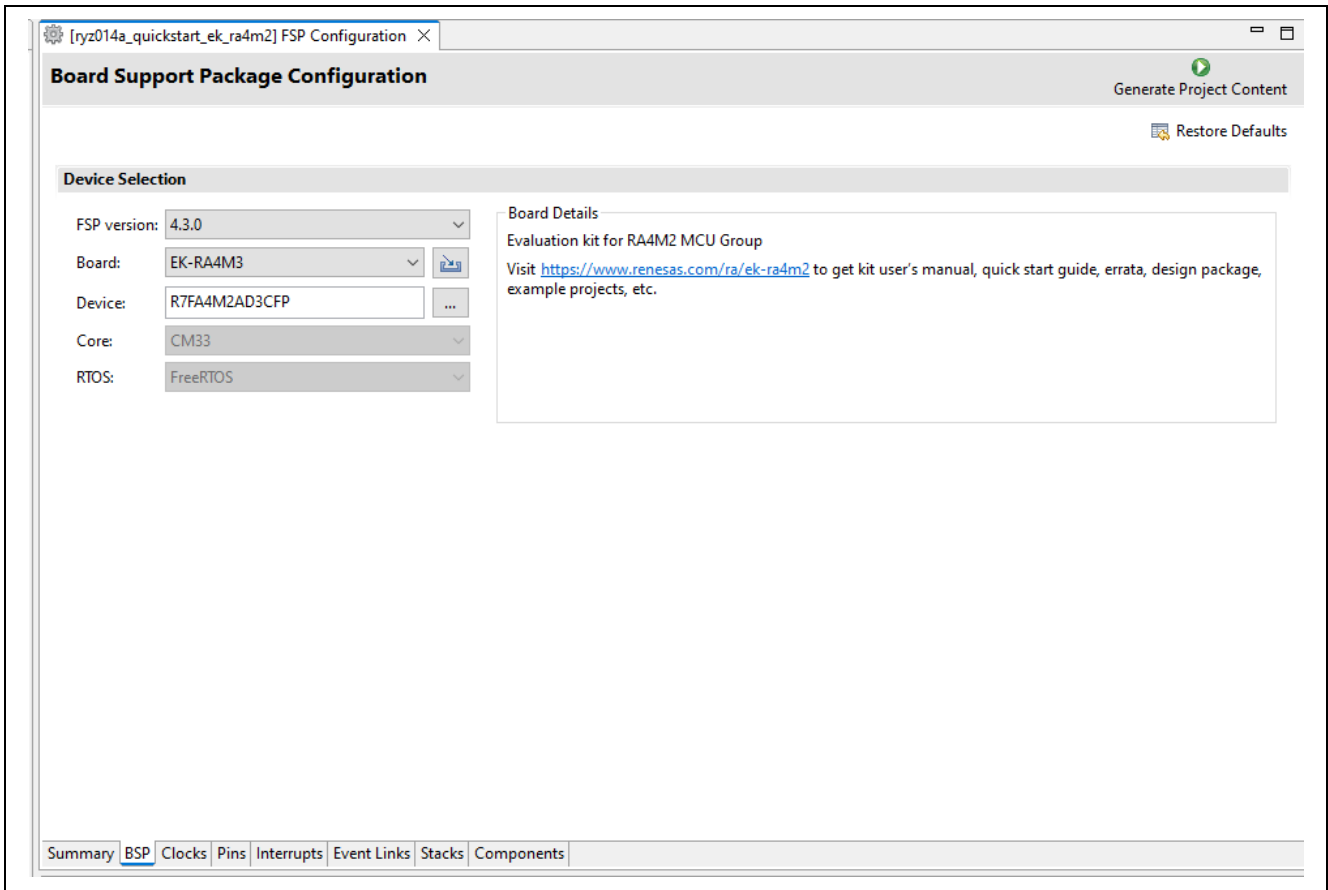

Figure 14. Modifying the Board Selection
2. For example, in the **BSP** tab of the configuration, the user can use to modify the Board Selection. Figure 14 illustrates modifying the **Board** selection.
3. After changing the Board or Device selection, it may be required to modify the Pin assignments in order to use the same project peripherals, LEDs, and other resources with the new Board. The Pin assignments can be changed on the **Pins** tab of the FSP configuration. Figure 14 illustrates modifying the Pin configuration.